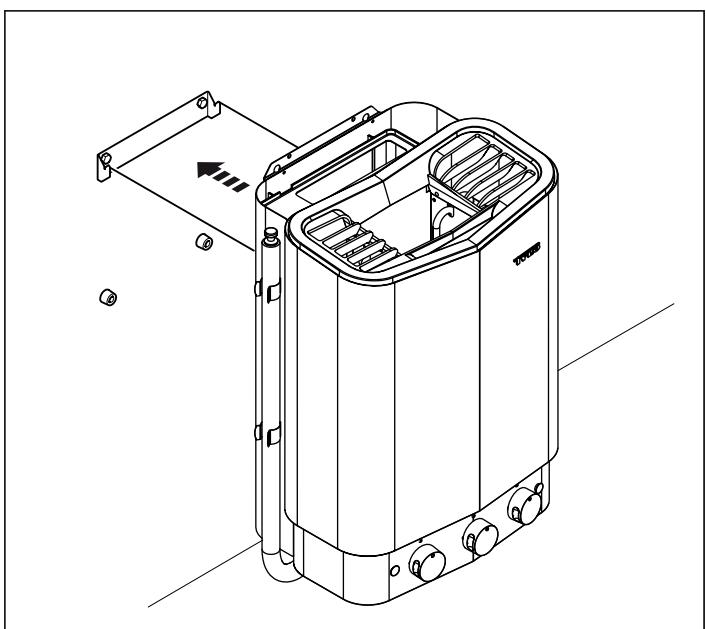

Figure 11: Hang up the heater.
9. Hang up the heater see Figure 11.